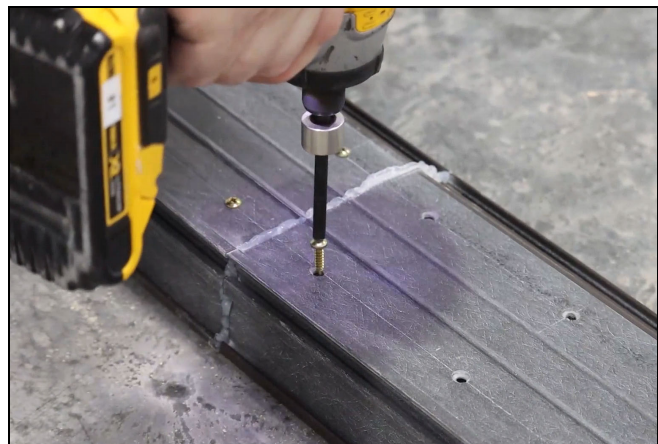

Figure 67
4. Attach the other section of the sill using the #8 x 5/8 screws. See Figure 67.